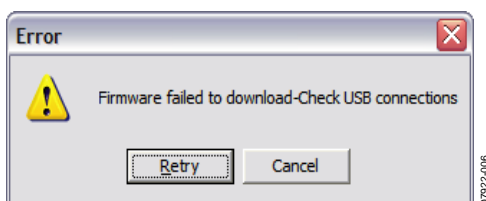

Figure 6. Expected Error Message
6. The message shown in Figure 6 will appear because the firmware code, which is downloaded to the evaluation board EEPROM memory each time the interface software program is opened, has not yet been downloaded. The firmware code cannot be downloaded yet because there is no USB connection between the computer and the AD7294 evaluation board at this stage; therefore, this error message is to be expected.